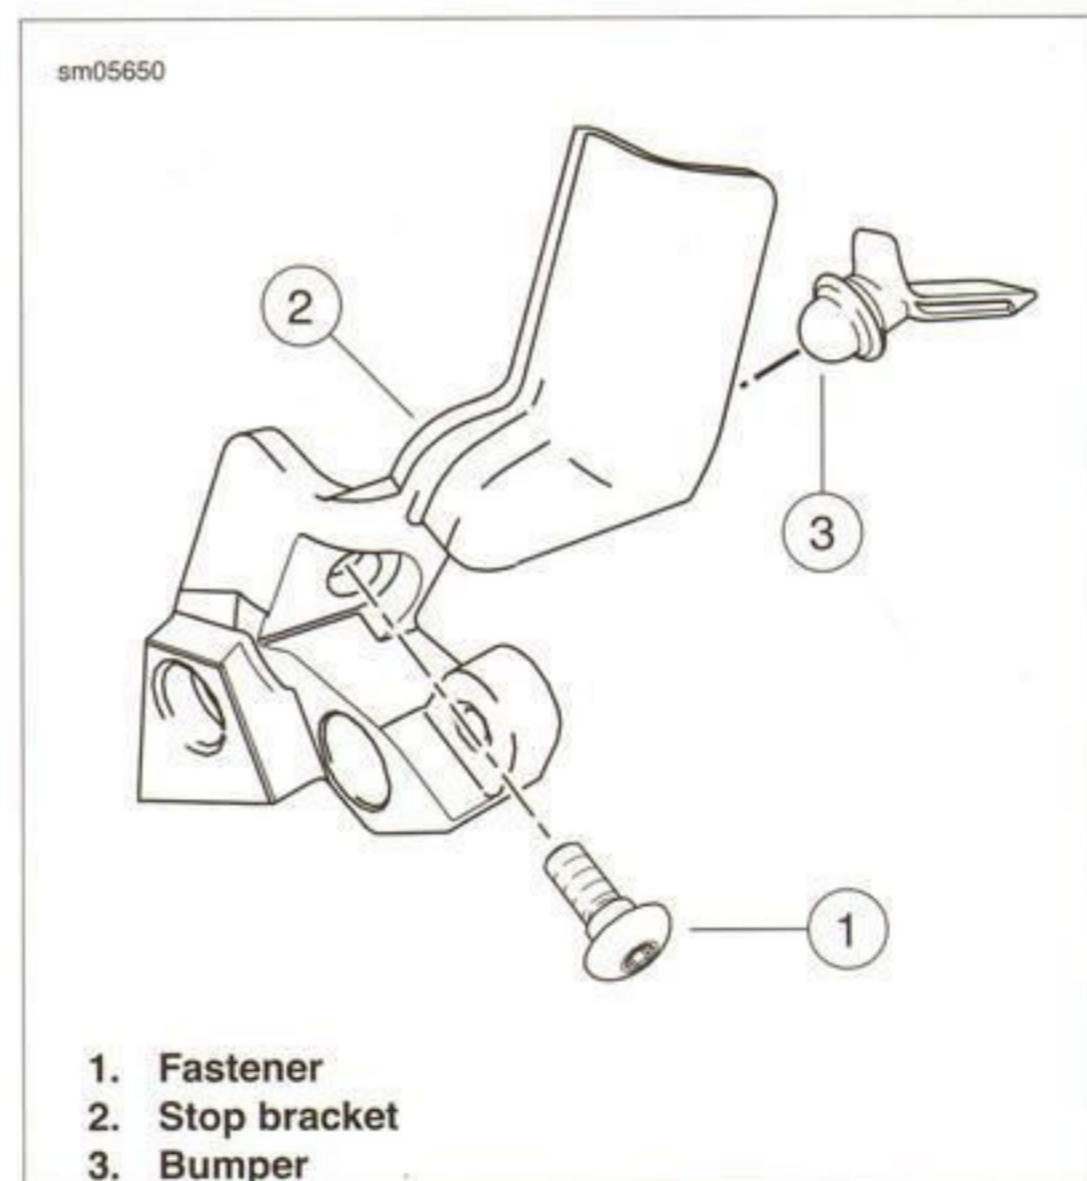

Figure 2-173. Sidestand Stop Bracket
2. See Figure 2-173. If damaged, press the bumper (1) out of the stop bracket and press in a new bumper.
3. Install sidestand stop bracket (2). Tighten fastener (3) to 9.5-10.8 Nm (84-96 in-lbs).